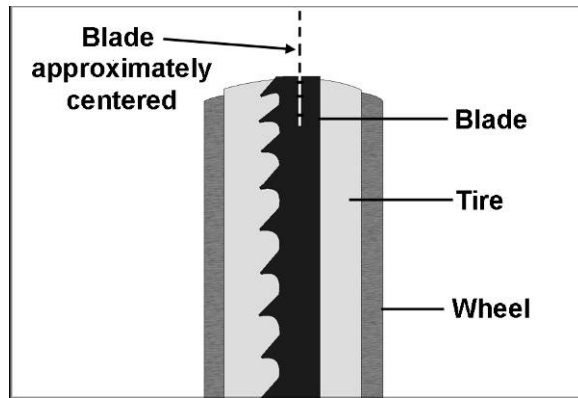

Figure 44
3. Turn blade *tension knob* (Figure 44) clockwise to tension blade. A *gauge* on the upper wheel *slide bracket* indicates the approximate tension according to the width of the blade. Initially, set the blade tension to correspond to blade width.
“Tracking” refers to how the blade is positioned on the wheels while in motion. The blade should track approximately in the center of both wheels, as shown in Figure 44. Tracking on the PWBS-14CS Band Saw has been factory-adjusted; however, it should be checked periodically, including after every blade change.